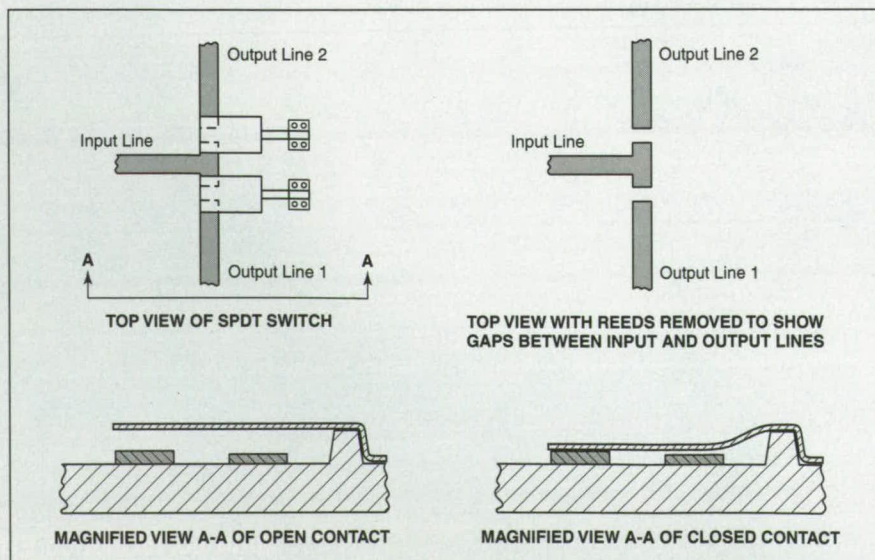

Figure 1. Microelectromechanical SPDT Switches configured generally like this one would offer advantages over semiconductor switches.
The simplest switch of this type (see Figure 1) would be an assembly of (1) a T junction between an input signal path and two output signal paths and (2) two electrostatically actuated microscopic reed contacts — one on each output path — close to the junction. In a normal operational condition, one reed contact would be closed ("on") and the other open ("off"). In this condition, the switch would provide an excellent dc and low-frequency block between the input line and the "off" output line, and an excellent conductive path between the input line and the "on" output line. However, as determined in a computational simulation, the isolation between the input line and the "off" output line at a frequency of 30 GHz would be only